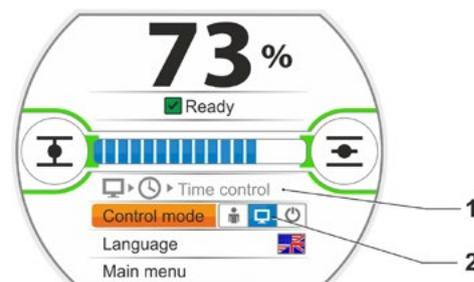

Fig. 2: Time control active
- Set ‘Control mode’ to REMOTE (fig. 2 pos. 2). In the first line of the start menu, the display shows that time control is active (pos. 1).